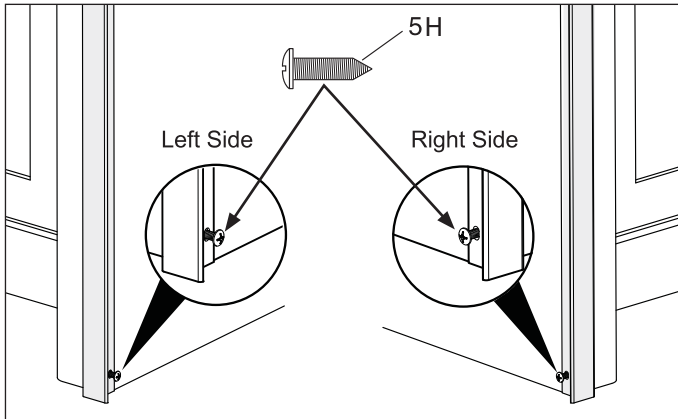

Figure 2-21.
- c. Run screw in all the way and then back out. Remove side trim for later install. (See Figure 2-21).